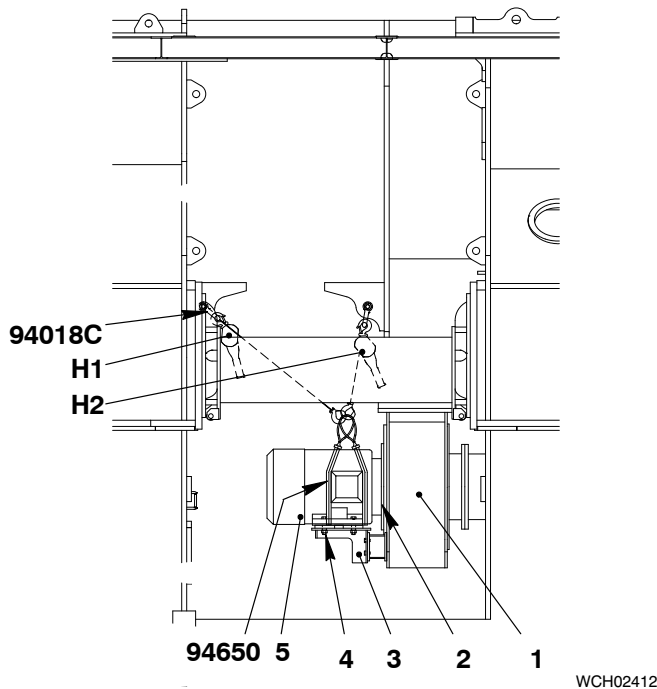

Fig. 10
- 3) Operate carefully the chain block (H3) and the manual ratchets (H1, H2) to move the electric motor (3, Fig. 10) and impeller (2) under the pipe (4).
- 4) Continue to operate the chain block (H3) and the manual ratchets (H1, H2). Make sure that the electric motor (3) and impeller (2) are below the chain block (H3).
- 5) Carefully lift the electric motor (5, Fig. 10) and impeller until they are in position in the casing (1).
- 6) Install the screws (4) to the support (3).
- 7) Install the screws (2) to the casing (1).
- 8) Connect the electrical connections to the electric motor (5).